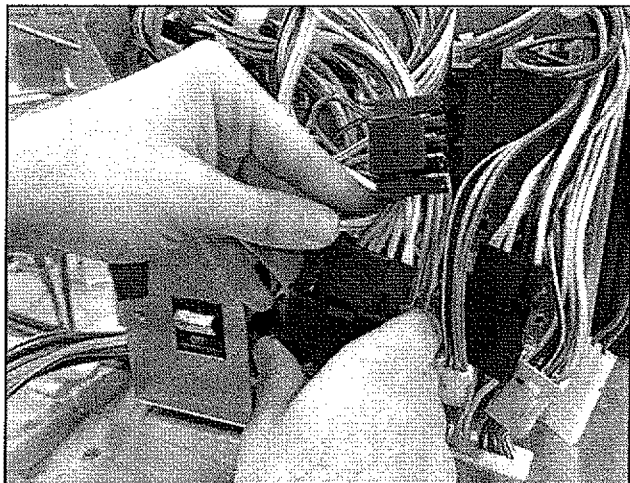

FIGURE 7
9. Disconnect freezer compartment connections by disconnecting the three connectors in the left grommet. See *Figure 7*.